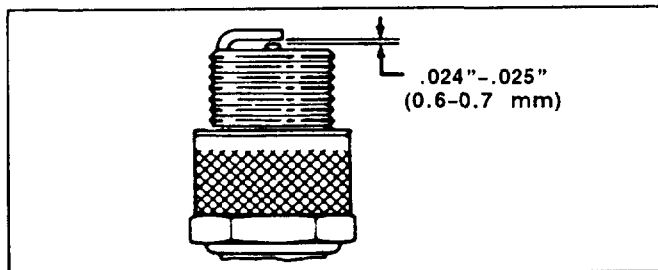

Figure 17
3. Set air gap at .024"-.028" (0.6-0.7 mm) (Fig. 17). Install correctly gapped spark plug and gasket seal. Tighten plug firmly to 9 ft-lb (1.2 Kg-m).